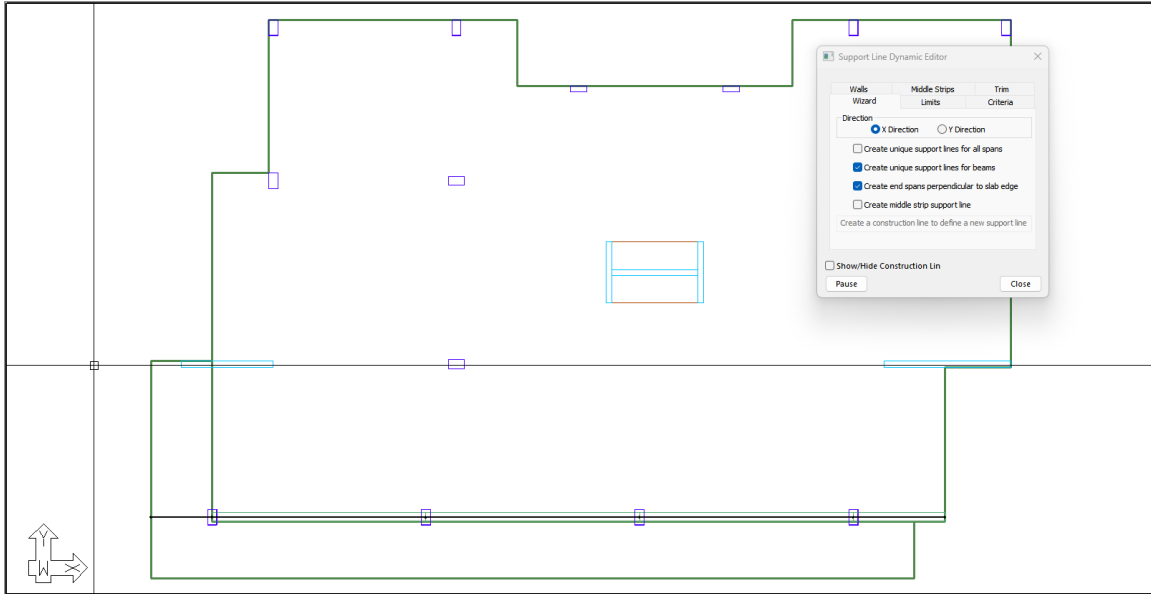

FIGURE 9-9
- Position your mouse in line with the second line of supports but outside of the slab to the left of the floor as shown in **FIGURE 9-9**.